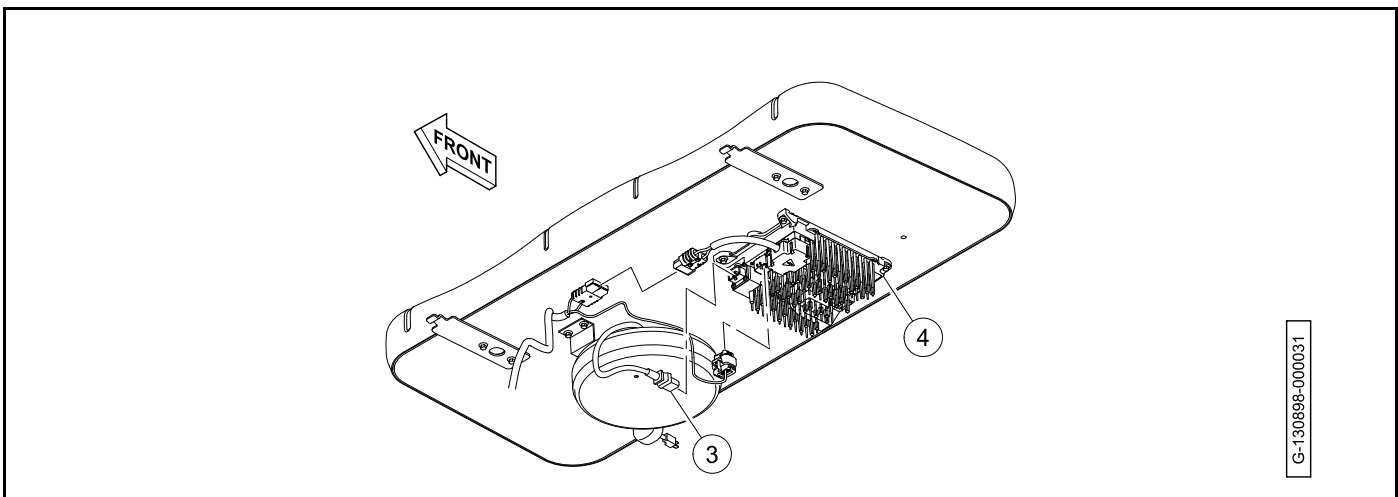

Figure 15-32 AC Cord Removal
7. Disconnect the AC cord (3) from battery charger (4) (**Figure 15-32**).
6. Disconnect the AC cord (3) from battery charger (4) (Figure 15-32).